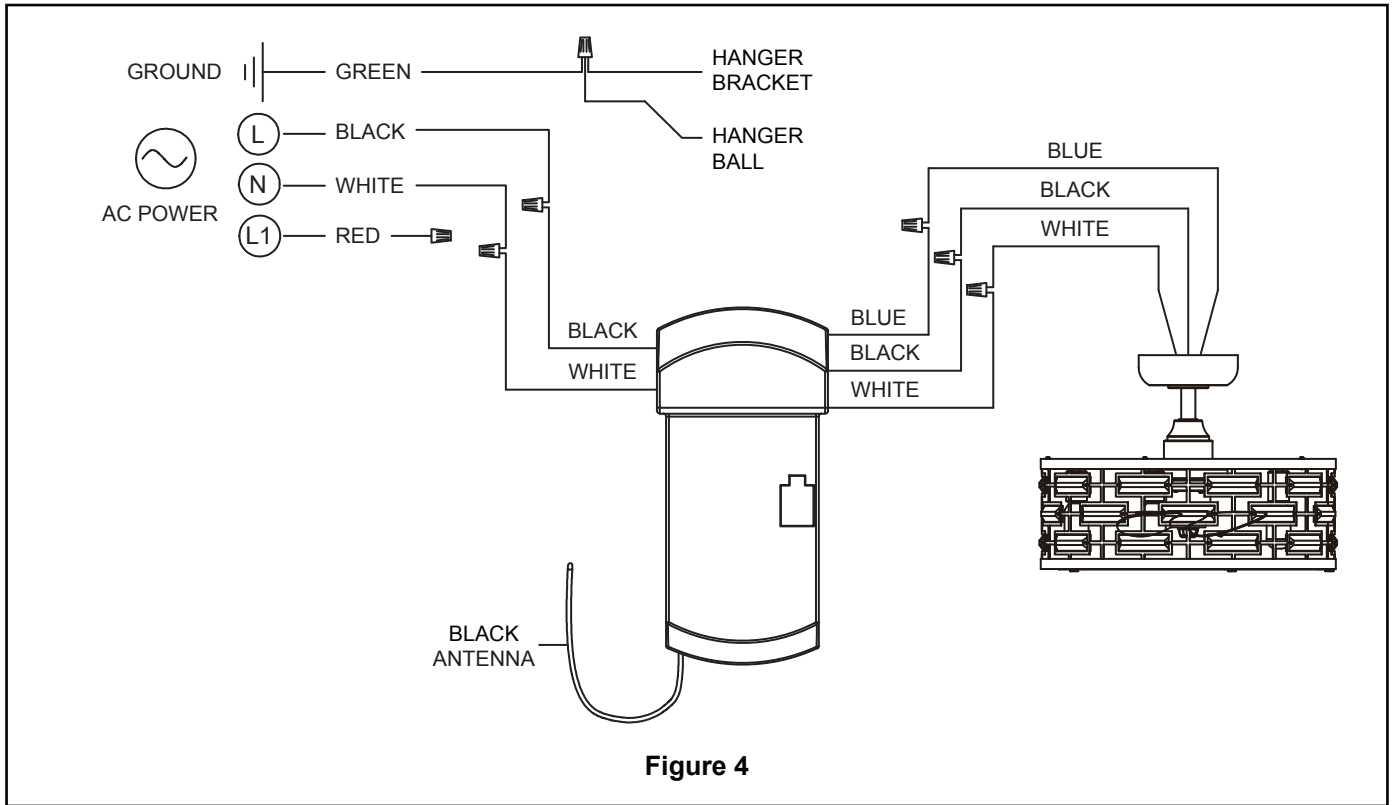

Figure 4
3. Connect green wires from hanger bracket, hanger ball and ground from supply using wire connector. Connect black wire from receiver unit marked "AC IN L" to black supply wire using wire connector. Connect white wire from receiver unit marked "AC IN N" to white supply wire using wire connector. Connect white wire from receiver unit marked "TO MOTOR N" to white wire from fan using wire connector supplied with receiver unit. Connect black wire from receiver unit marked "TO MOTOR L" to black wire from fan using wire connector supplied with receiver unit. Lastly, connect blue wire from receiver unit to the blue fan light wire using wire connector supplied with receiver unit. (Figure 4)